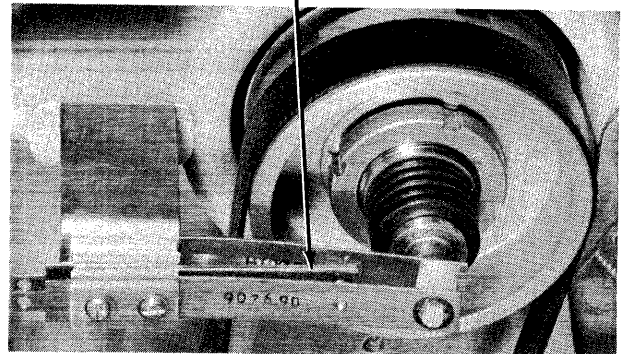

Figure 4-14. Pack Switch Contacts
- h. Check pack switch for burned or dirty contacts. Clean contacts with fine emery cloth as required (see Figure 4-14).